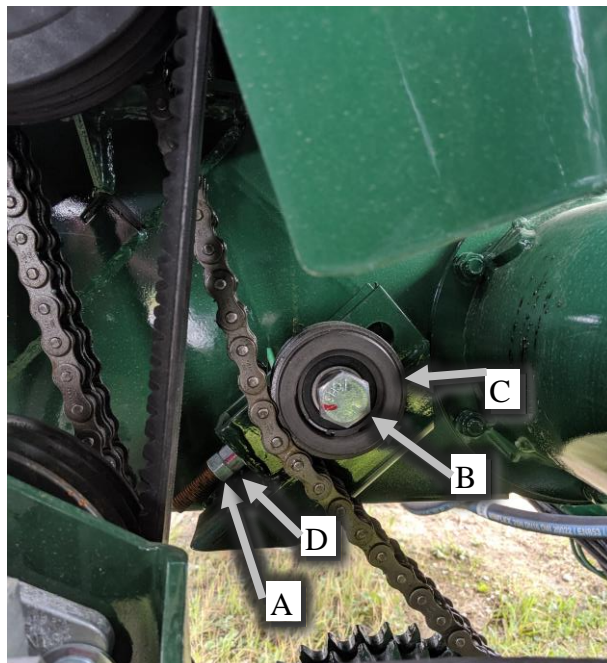

Figure 47 - Drive Chain Adjustment (Shield Removed for Clarity).
Adjust the tension of the main drive chain by doing the following steps (see Figure 47). Make sure the chain deflection is 1/2 inch total at the longest span.
- Loosen locking nut "A" (see Figure 47). Loosen bolt "B" on idler roller (lock nut hidden behind
- Adjust nut "D" (Figure 47) until the proper chain deflection is achieved.